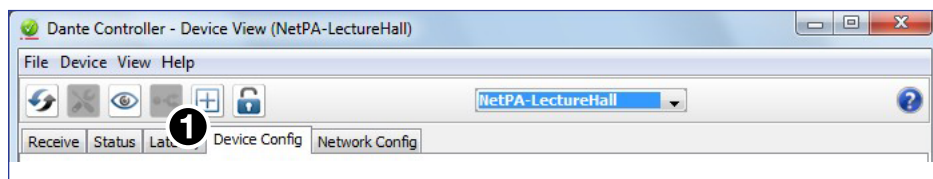

Figure 14. Device Config Tab
- Click the **Device Config** tab to open the device configuration page (see figure 14, ❶).